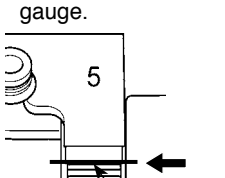

Fig. 1
3-3. Re-check: Are the 6th threads of sub clamp catch plates ①, ④ and ⑤ aligned with the gauge? (See Fig. 1.)